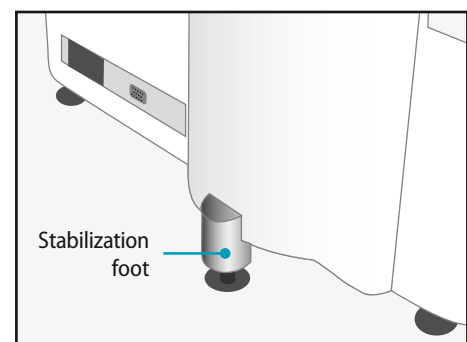

Figure 2.11: Rear of instrument with installed stabilization foot
10. A stabilization foot (see Figure 2.11) is included with the instrument. Install the stabilization foot at the back of the instrument.